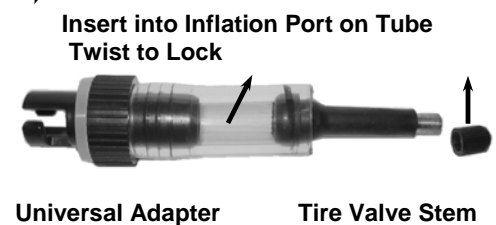

fig. 3
Fill Adapter: The large end of the Fill Adapter (fig. 3) locks into the Inflation Port by inserting it in and twisting ¼ turn *clockwise* (to the right). There are 2 options for connecting it to your inflation source:
2. Insert the large end of the Fill Adapter (fig.3) into the tube inflation port, twist it clockwise (right) to lock in place and start filling the tubes.